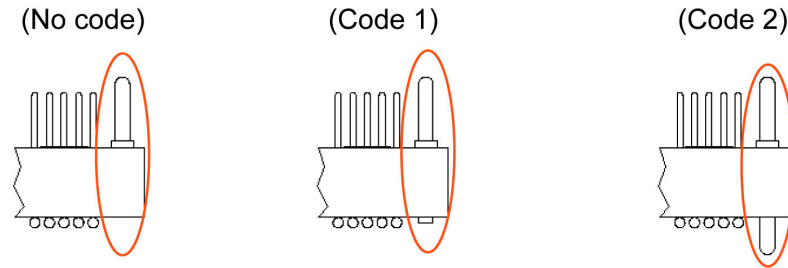

Fig. 6
- 3.9 There are three (3) available alignment pin options for this product line. The standard configuration (no special code needed in part number) includes four alignment pins; one in each corner on the top side of socket and adapter. In addition to the standard pins (on top), the second option has four (4) connector-to-PC board standoffs on the bottom (ordering code 1), and the third option has three (3) PC board alignment pins and one (1) standoff (part of pin) located in "A1" position on the bottom (ordering code 2). [Fig. 6]